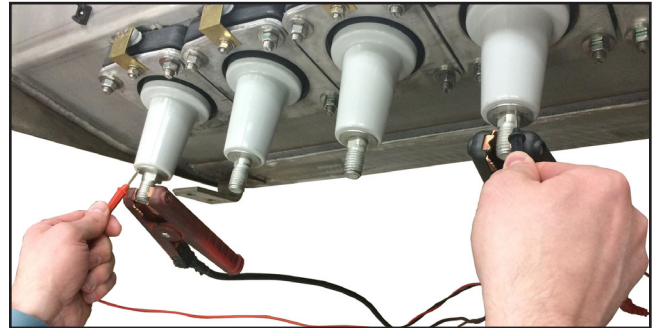

Figure 28. Connecting the resistance measuring device.▲
STEP 1. Clamp the two current-carrying probes of the resistance measuring device to the bushing conductors of the current-carrying path to be measured. See Figure 28. In this example the resistance is being taken between Way 1 Phase A and Way 2 Phase A.